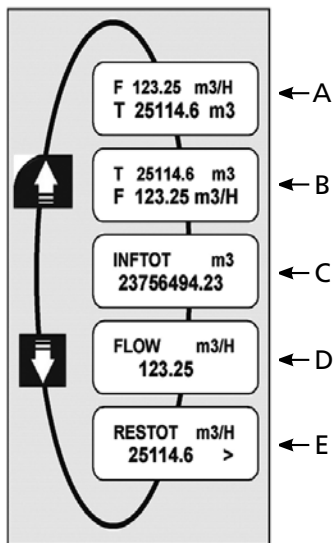

Figure 12 - View Level
- To select the item you want displayed, press UP or DOWN arrows (Figure 12)